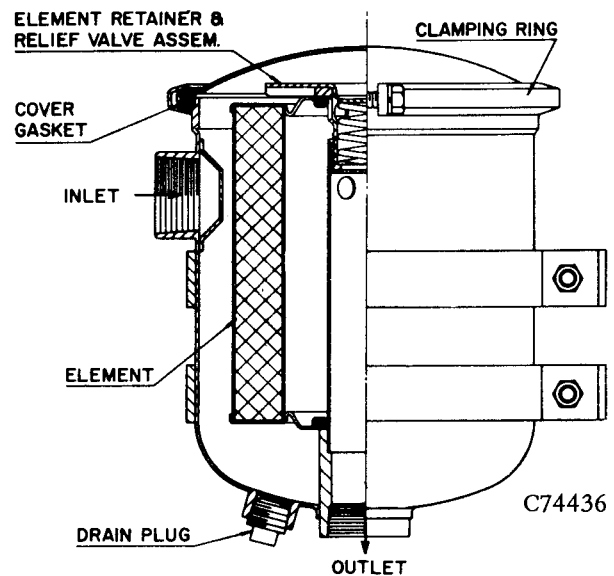

FIGURE 4-5. – COMPRESSOR OIL FILTER
**COMPRESSOR OIL FILTER** (Figure 4-5) is a vital part in maintaining a trouble-free compressor, since it removes dirt and abrasives from the circulated oil. The filter is a replaceable paper element type and is equipped with an 18-21 PSI relief valve that opens in the event the element becomes dirty enough to block the flow of oil. Element must be replaced every 1000 hours, or when the pressure drop is 15 PSI. More frequent changes improve the system's reliability and are recommended.